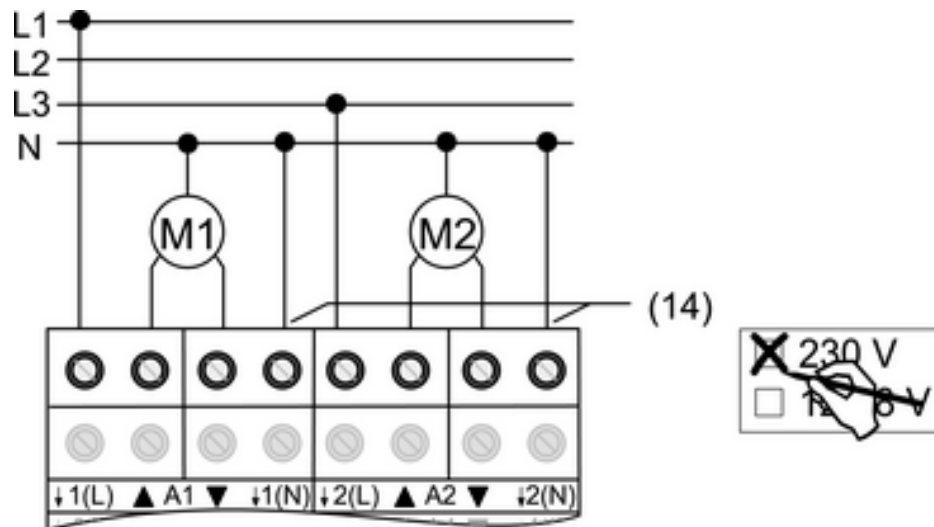

Figure 7
- Connecting the motor (Figure 7).
- Connect the N conductor of the corresponding motor to the N conductor terminals (14) (Figure 7). Note RCCB wiring.
- Mark **230 V** use on label (Figure 7).